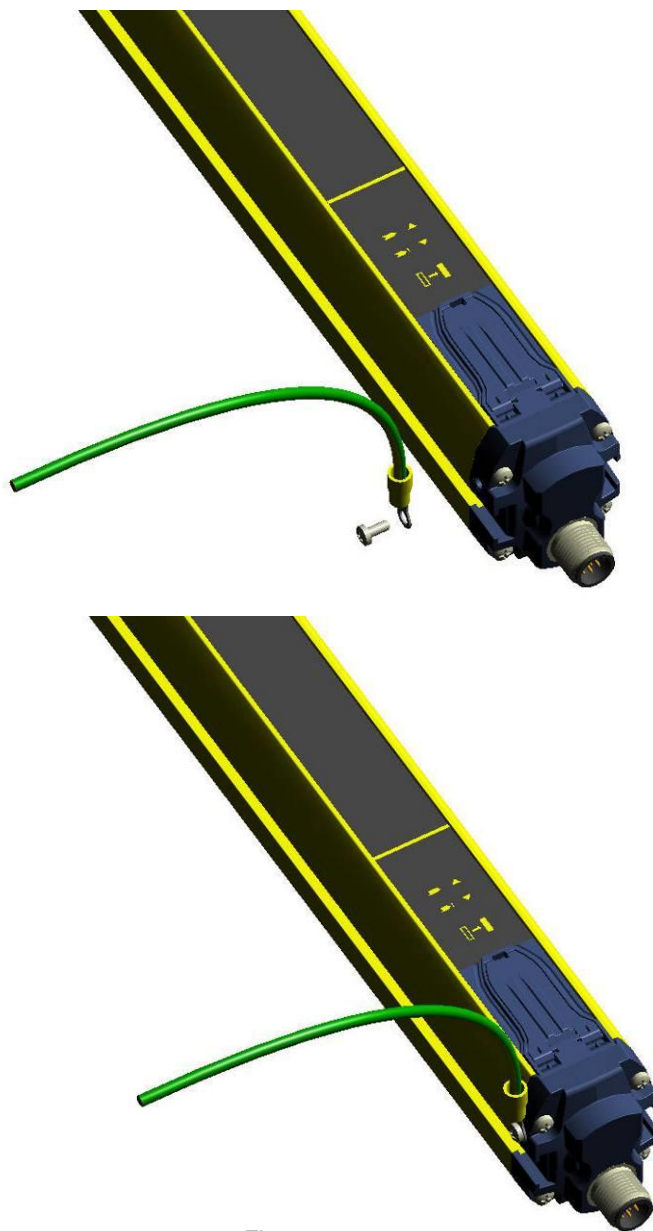

Fig. 17
- This connection can be carried-out using the screw supplied, which can be put into the proper threaded hole on the cap (*see Fig. 17*).